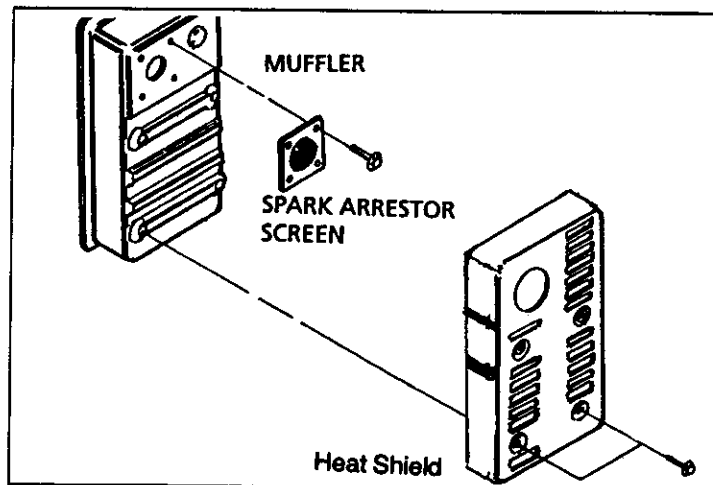

FIG. 15
- To remove the heat shield from the muffler (Fig. 15), remove the nine screws that connect the shield to the muffler.